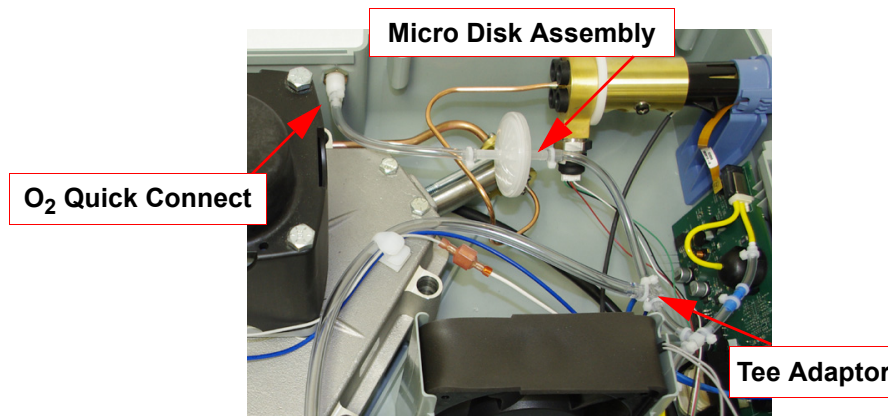

FIGURE 8-7 MICRO DISK FILTER
2. Cut the Tie wrap securing the one piece of tubing from the Inlet O₂ Quick Connect. Refer to Figure 8-7.
6. Remove the tubing from the Tee Adaptor going to the Micro Disk Filter. Refer to Figure 8-7.
1. Connect the tubing from the Micro Disk Filter to the Tee Adaptor. Refer to Figure 8-7.